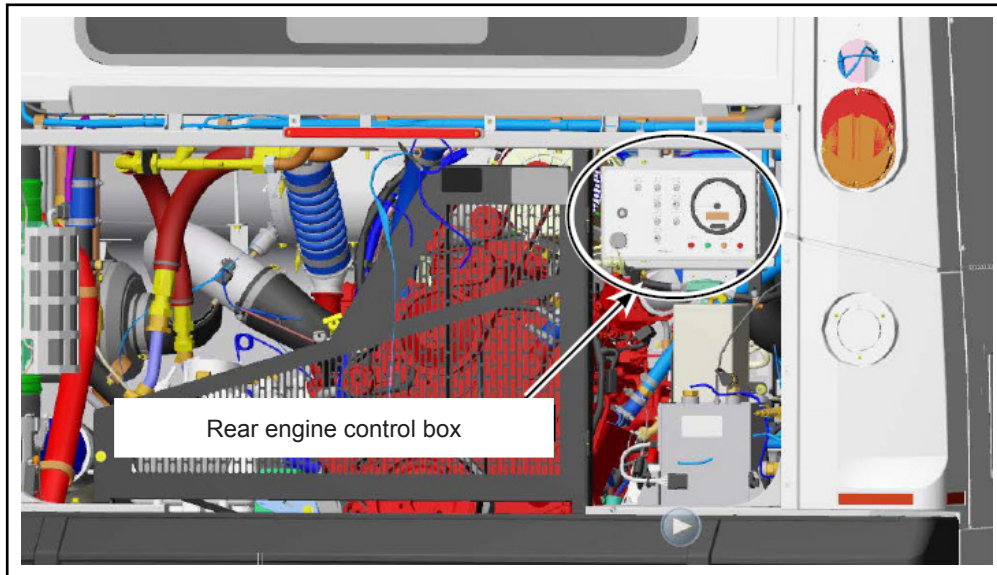

Figure 2 - Typical Location of Rear Engine Control Box
- 1.3. Deactivate the bus from the rear engine control box (see Figure 2).